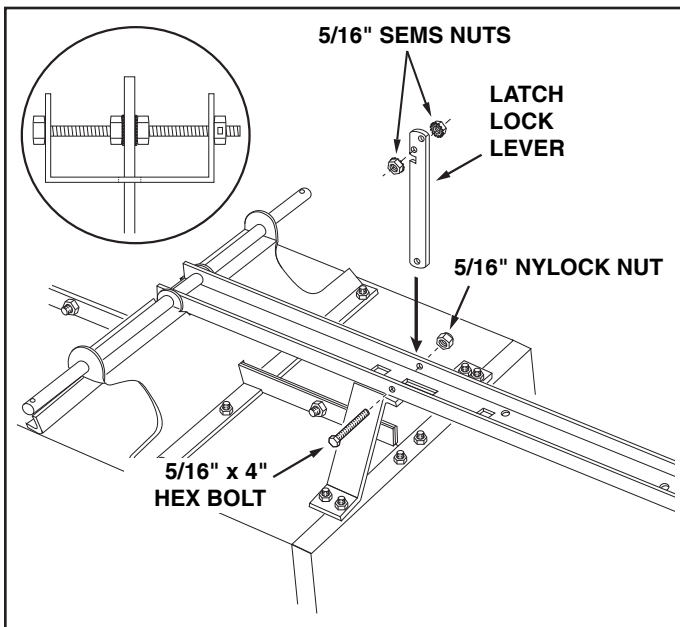

FIGURE 10
- Place the latch lock lever through the slot in the draw bar tongue as shown in figure 10. Assemble the 5/16" x 4" hex bolt through the tongue, the lever and two 5/16" SEMS nuts (one on each side of the lever). Assemble the 5/16" nylock nut onto the end of the bolt and **tighten** so that the bolt can still rotate freely. **Tighten** the two 5/16" SEMS nuts against the sides of the latch lock lever so that the lever is centered in the slot. See figure 10.